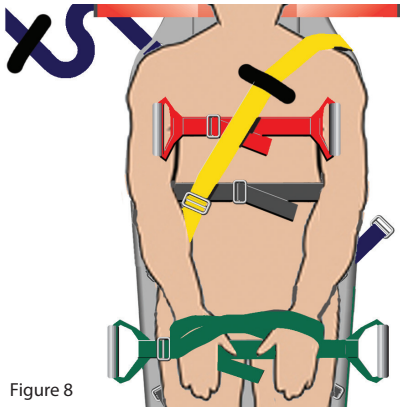

Figure 8
4. **Figure 8 / Groin Harness**
- 4a. **Figure 8 / Groin Harness**